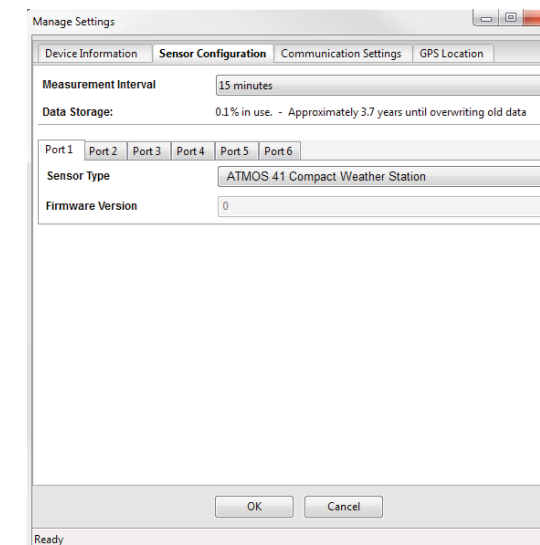

Figure 5 Sensor Configuration tab
- Navigate to the Sensor Configuration tab (Figure 5).